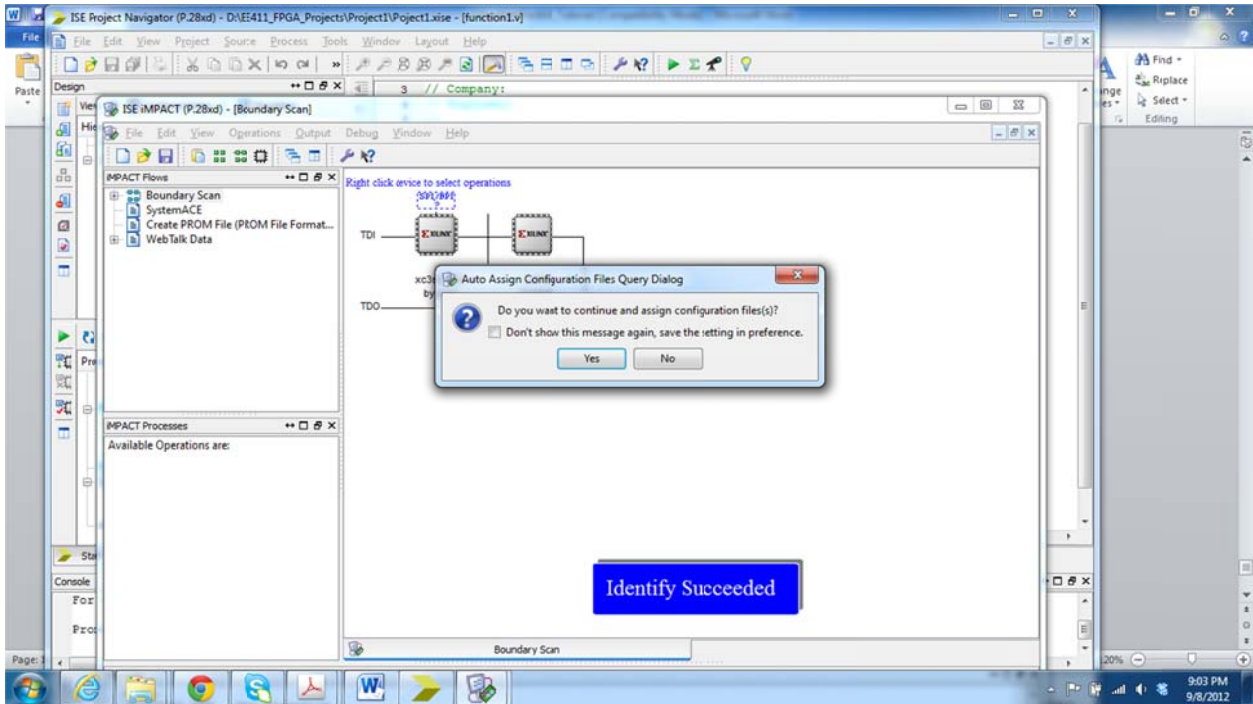
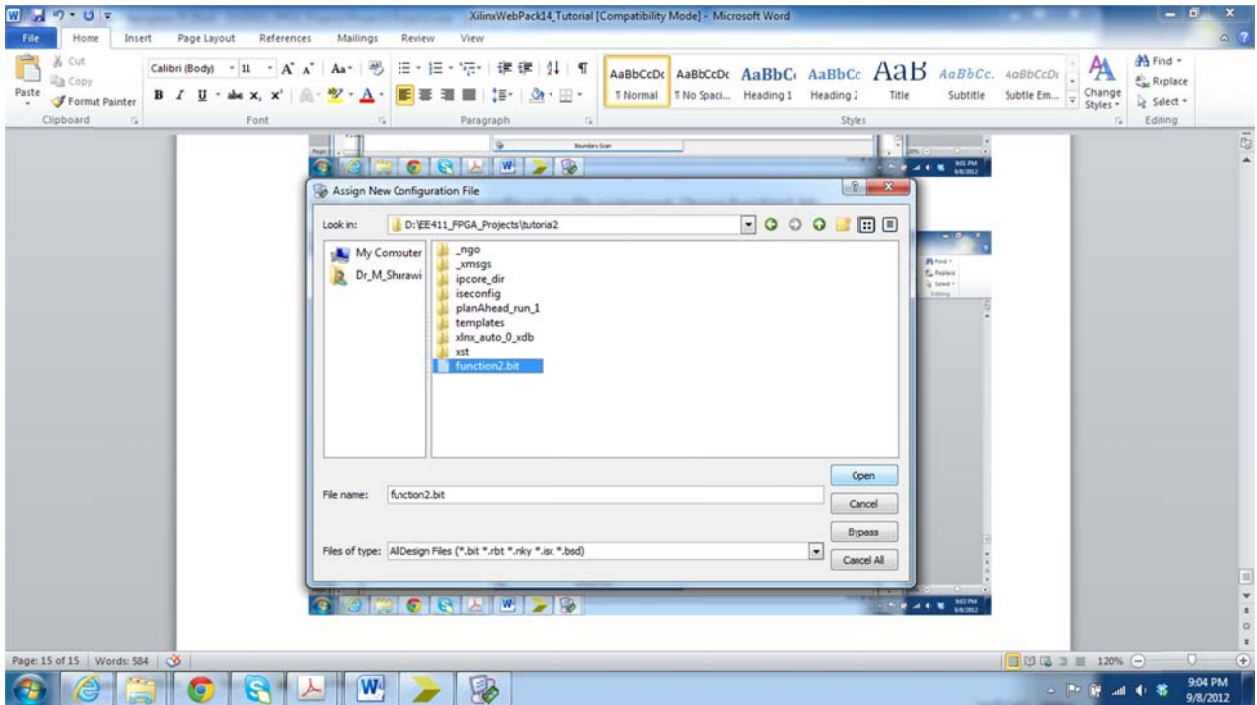

Figure 15B
Figure 16B
16. Click **yes** to continue with configuration file assignment as shown in Figure 15B. Choose function1.bit as shown in Figure 16B.